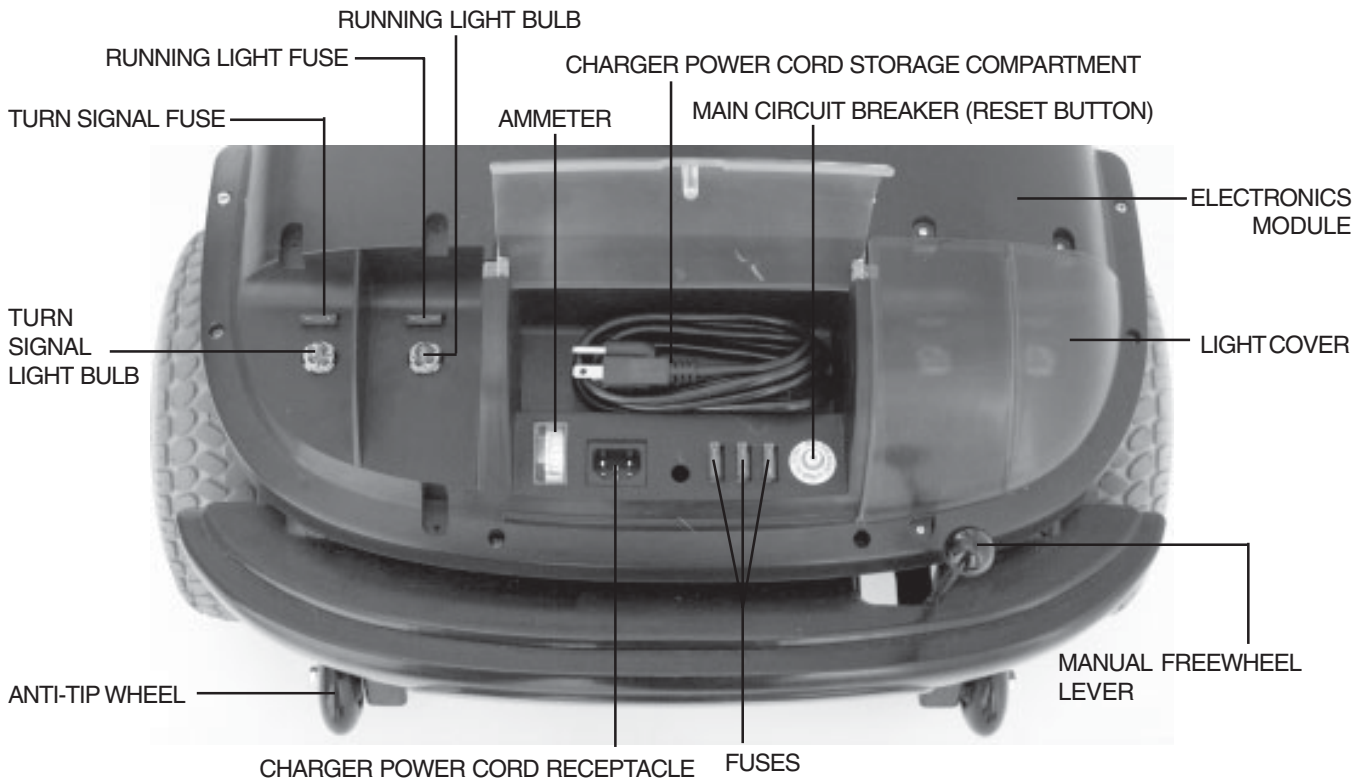

Figure 7. Rear Section (Left Light Cover Removed For Clarity)
The onboard battery charger (not shown), the charger power cord receptacle, the batteries (not shown), the electronics module, the main circuit breaker (reset button), the ammeter, the manual freewheel lever, the anti-tip wheels, and the motor/transaxle assembly (not shown) are located on the rear section of your Hurricane PMV. See figure 7. Refer to IX. “Disassembly and Assembly” for instructions on removing the rear shroud.
When the voltage in your Hurricane’s batteries becomes low or your Hurricane PMV is heavily strained because of excessive loads or steep inclines, the main circuit breaker may trip to protect your Hurricane’s motor and electronics from damage. See figure 7.
- The manual freewheel lever is located on the end of the motor/transaxle assembly at the right rear of the Hurricane PMV. See figure 7.